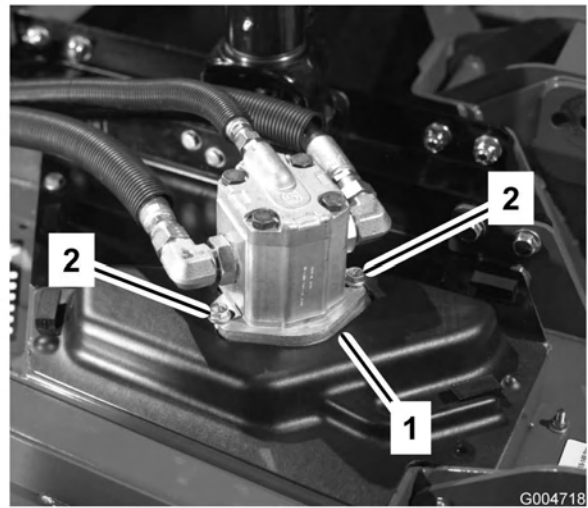

Figure 64
4. Remove the bolts securing the hydraulic motor to the cutting unit (Figure 64). Lift the motor off of the cutting unit and lay it on top of the cutting unit.